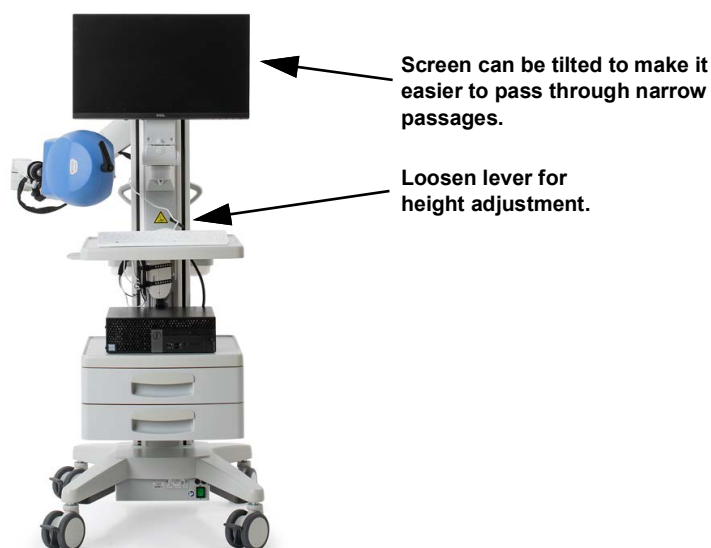

Figure 3-5 Cart in transport position.
1. Loosen the lever above the top shelf, see Figure 3-5 below.